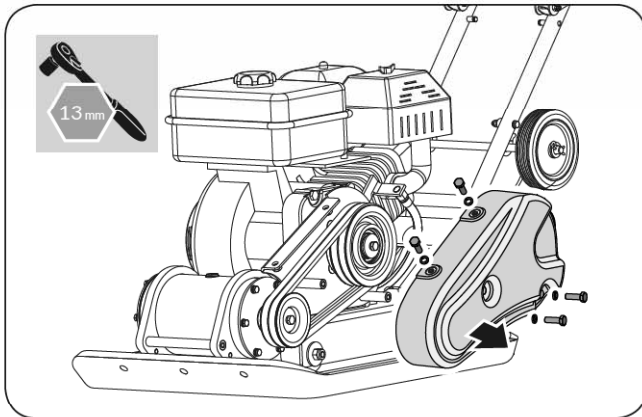

Figure 7a
2. Remove the belt guard to access the V-belt(s). (See **Figure 7a**)
2. Remove the belt guard to access the V-belts. (See **Figure 7a**)